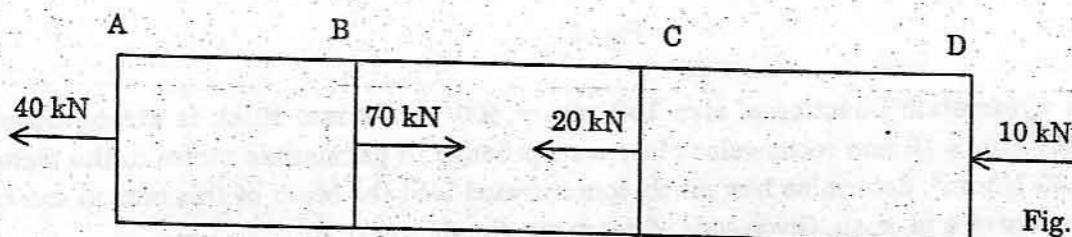

Fig. 1
- III. (a) A brass bar, having cross-section area of 900 mm^2 , is subjected to axial forces as shown in Fig.1, in which $AB = 0.6 \text{ m}$, $BC = 0.8 \text{ m}$, and $CD = 1.0 \text{ m}$. Find the total elongation of the bar. Take $E = 1 \times 10^5 \text{ N/mm}^2$.